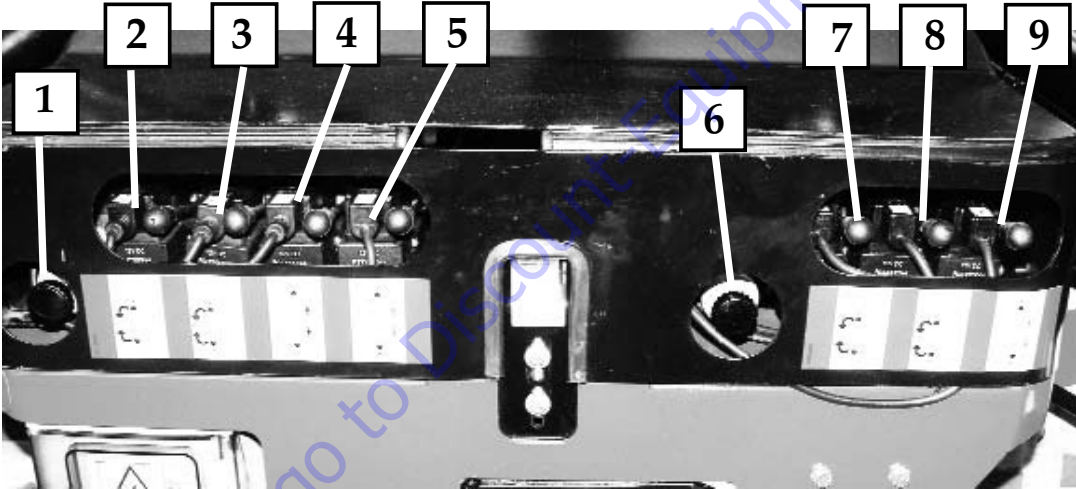

Figure 5-6. Ground Component Valves - Outriggers/Track Control - Location
5. Locate the proportional flow valve on the left side of the chassis attached to the group of four valves (*item 1 - Figure 5-6.*). Push and hold the black knob before activating any function lever.
- 1st valve (*item 2 - Figure 5-6.*) (far left (at rear of machine) in the group of four) operates Left Front Outrigger.
- 2nd valve (*item 3 - Figure 5-6.*) from the left in the group of four operates Left Rear Outrigger.
- 3rd valve (*item 4 - Figure 5-6.*) from the left in the group of four valves operates the Left Track Drive functions.
- 4th valve (item 5 - Figure 5-6.) from left in the group of four, operates track extension and retraction.
8. Locate the proportional flow valve on the right side of the chassis attached to the group of three valves (item 6 - Figure 5-6.). Push and hold the black knob before activating any function lever.
- 1st valve (item 7 - Figure 5-6.) (far right-right side of machine in the group of three) operates Right Rear Outrigger
- 2nd valve (item 8 - Figure 5-6.) from the right in the group of three operates Right Front Outrigger
- 3rd valve (item 9 - Figure 5-6.) from the right in the group operates the Right Track Drive functions.